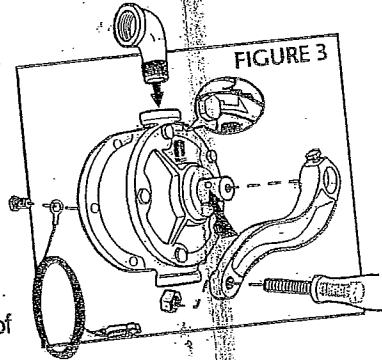

FIGURE 3
5. Put at least 2-1/2 layers of Teflon tape on the male thread of the 90° street elbow and thread onto the top of the rotary pump body. Tighten with a wrench in such a way that the opening of the elbow will not be in the way when the handle is being rotated. It is suggested that the opening of the elbow should be facing the opposite direction of the arrow on the side of the pump. (See inset in Figure 3)
6. Slip the red handle body onto the drive shaft of the pump body and tighten bolt in the divot on the red handle body (Figure 3)
7. Thread black handle bolt into the red handle body then tighten nut to secure bolt. (Figure 3)
8. Secure ground wire to the rotary pump body by removing one of the bolts on the opposite side of the pump handle. (Figure 3)